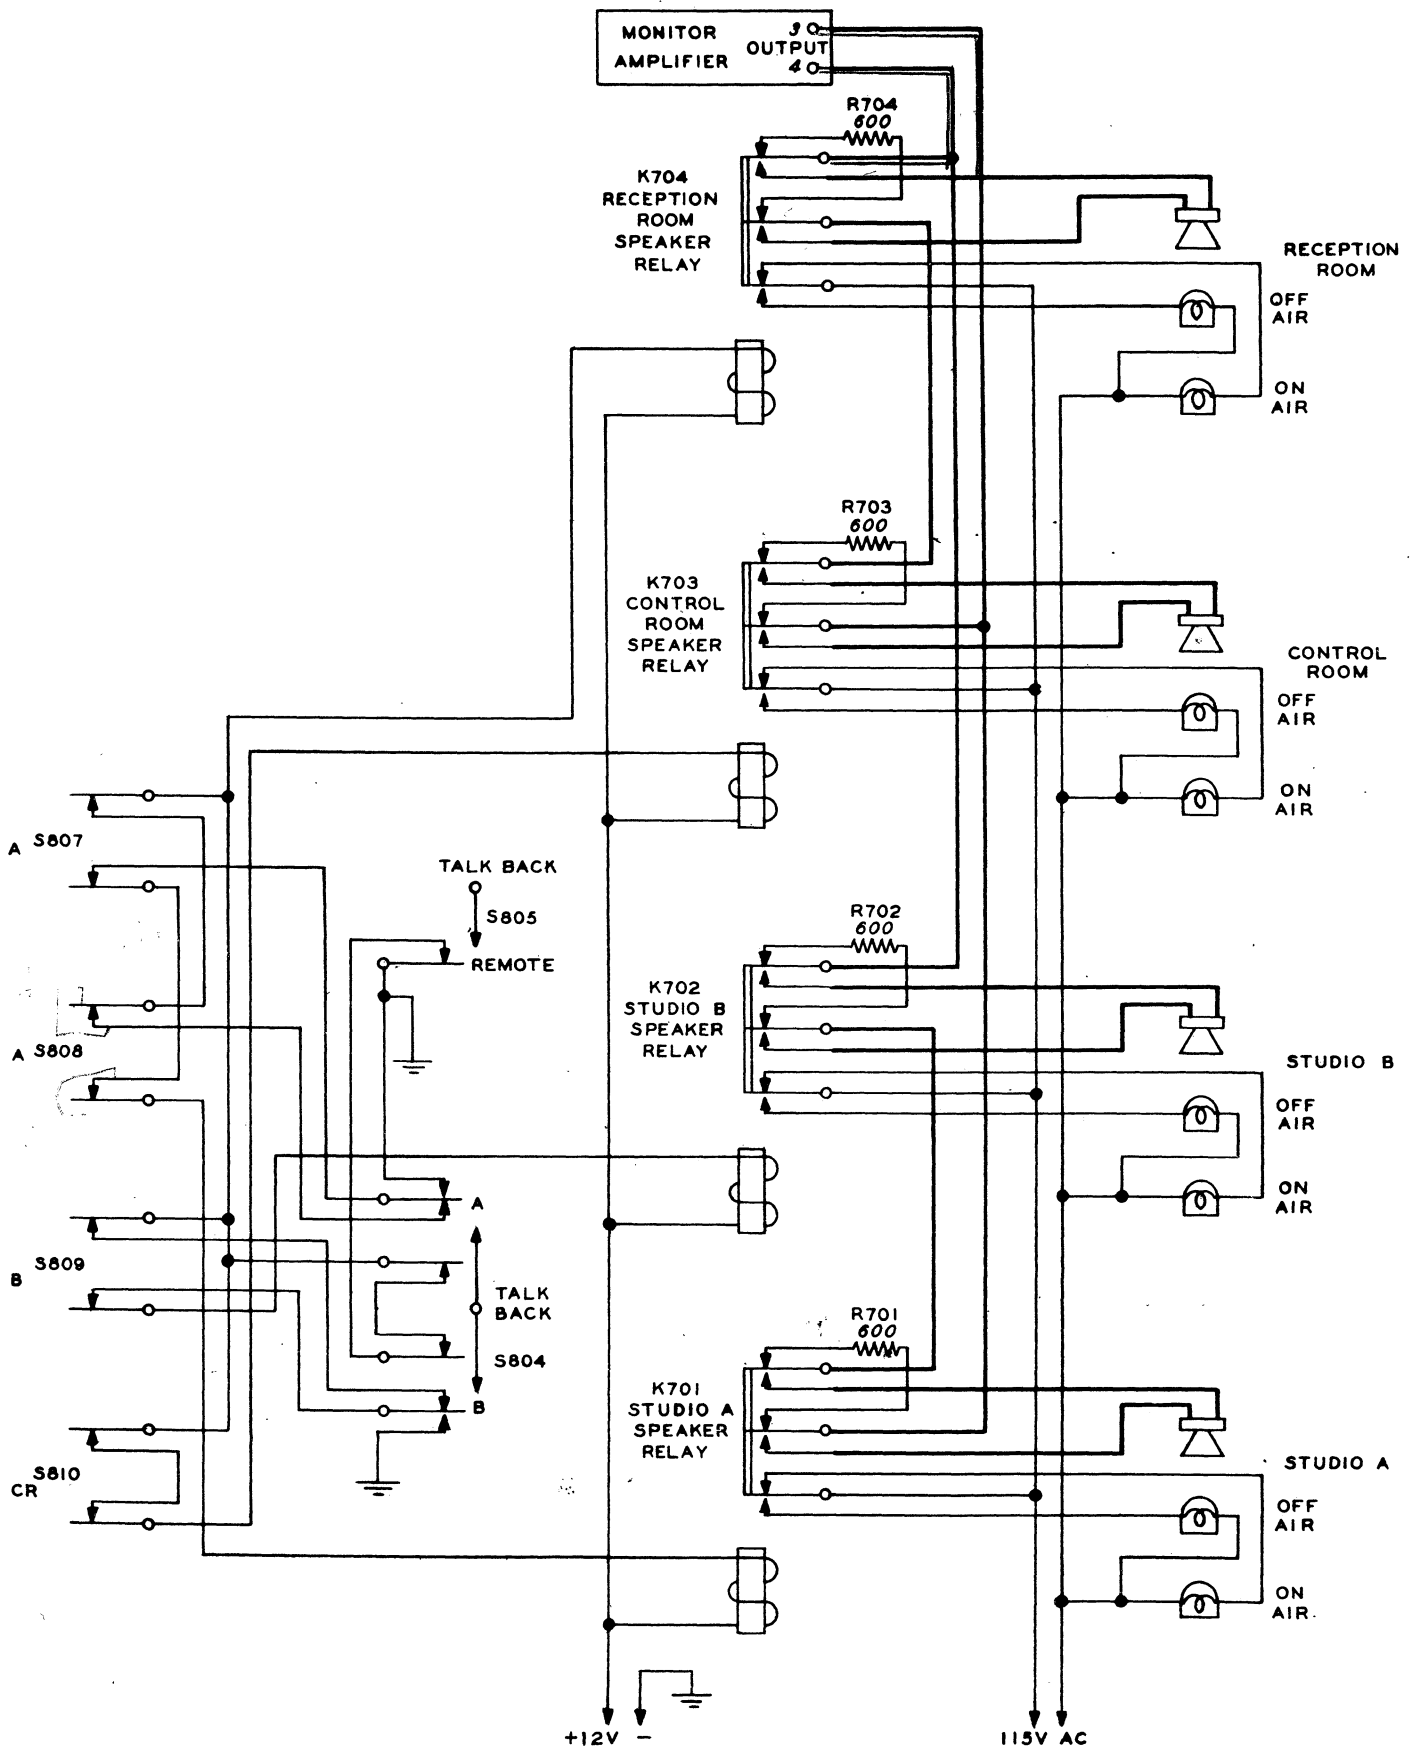

Figure 2-9 Studio Speaker and Light Control Circuits
(10) STUDIO SPEAKER AND LIGHT CONTROL CIRCUITS. - Refer to figure 2-9. The relays K701, K702, K703 and K704 are operated from a 12 volt d-c source which is controlled by the mixer circuit key switches S807, S808, S809 and S810. The four speakers are operated from the output of the monitor amplifier. The output impedance is 600 ohms. Resistors R701, R702, R703 and R704 are used as terminating resistors for the audio output when a speaker is removed from the circuit. The OFF AIR and ON AIR lights operate from 115 volts a-c.